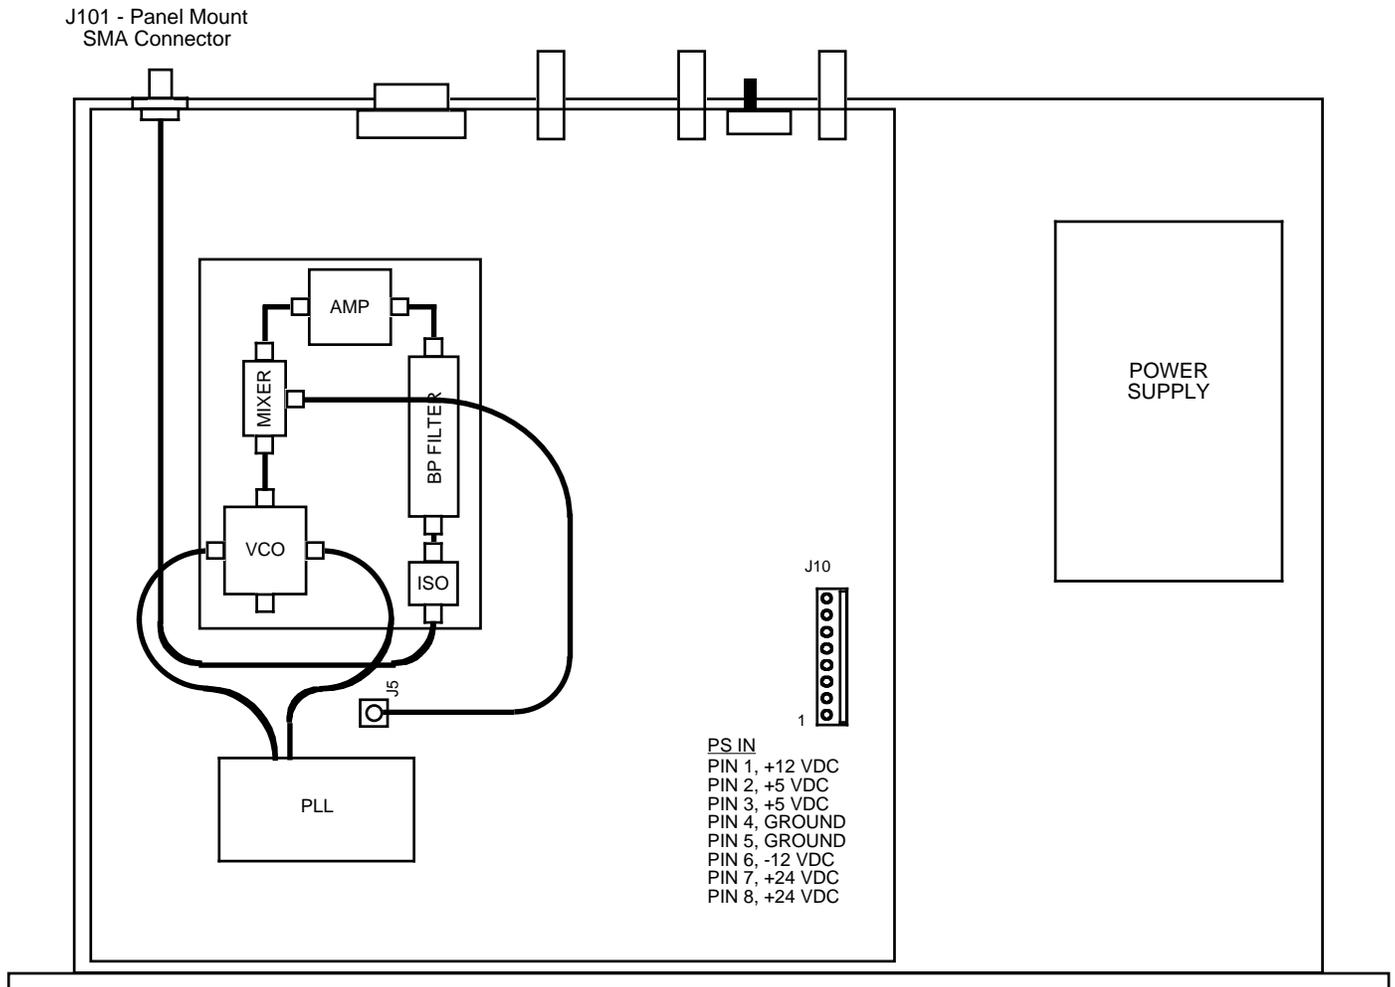

FIGURE 2.0 2115-143 Mechanical Assembly
2.1 Mechanical - The 2115-143 consists of one RF PCB housed in a 1 RU (1 3/4 inch high) by 12 inch deep chassis. A switching, ± 12 , +24, +5 VDC power supply provides power for the assemblies. The 2115-143 can be secured to a rack using the 4 holes on the front panel. Figure 2.0 shows how the 2115-143 is assembled.